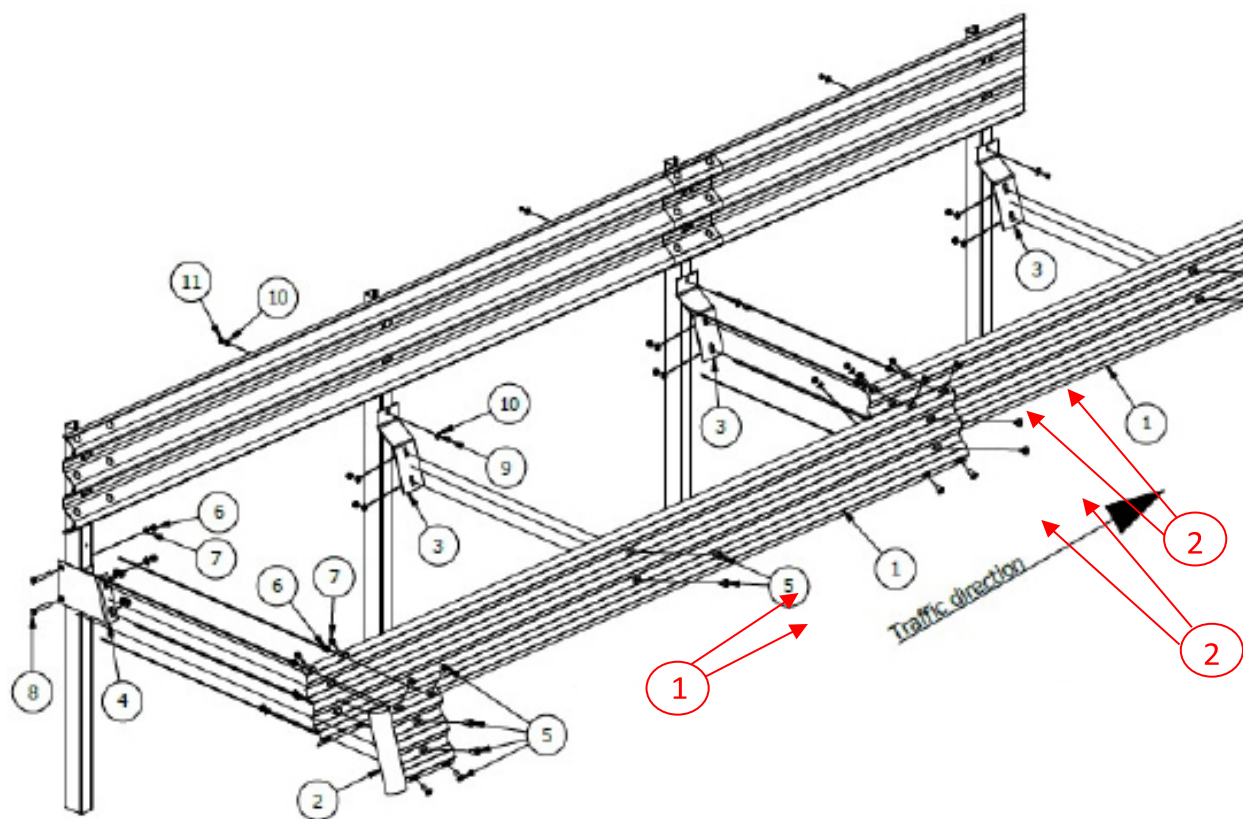

Figure 3. Attachment of the RiderPro MPR beams to the Sentry Barrier TL-4 Thrie-Beam System
Position the RiderPro MPR beams below and parallel to the guardrail. Attach them to the mounting brackets with two M16 x 35 mm guardrail bolt (Ref. (1) in Figure 3) using standard nuts and round washers, but do not fully tighten them yet.
Splice beams together using four M16 x 35 mm 8.8 guardrail bolts (Ref. (2) in Figure 3), standard nuts and round washers.